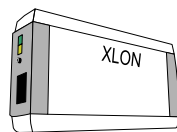

Fig. 22: Lonworks to PC (USB) interface, 130.9740
- Lonworks to PC (USB) interface (see figure 22)